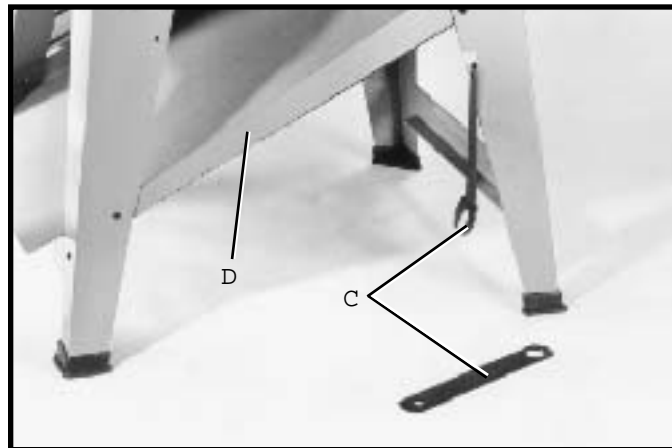

Fig. 91
- 3 Arbor wrenches (C) Fig. 91, can be stored on one of the two notched legs.
The saw stand support panel (D) Fig. 91, also serves as a natural built-in dust chute. This dust chute (D) allows the sawdust to conveniently escape out the rear of the saw stand and away from the work area.